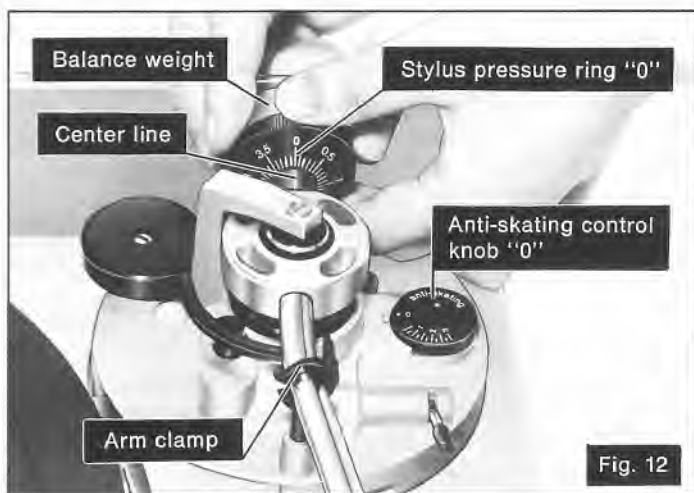

Fig. 12
- 3) Make sure that the anti-skating control knob is at "0" position. (See Fig. 12).
- ④ After the tonearm is horizontally balanced, temporarily fasten the tonearm to the arm clamp. (See Fig. 12). Hold the balance weight stationary with one hand as shown in Fig. 12 and rotate only the stylus pressure ring to bring the numeral "0" of the ring into alignment with the center line on the tonearm rear shaft. (The adjustment of the horizontal "0" balance is now completed.)